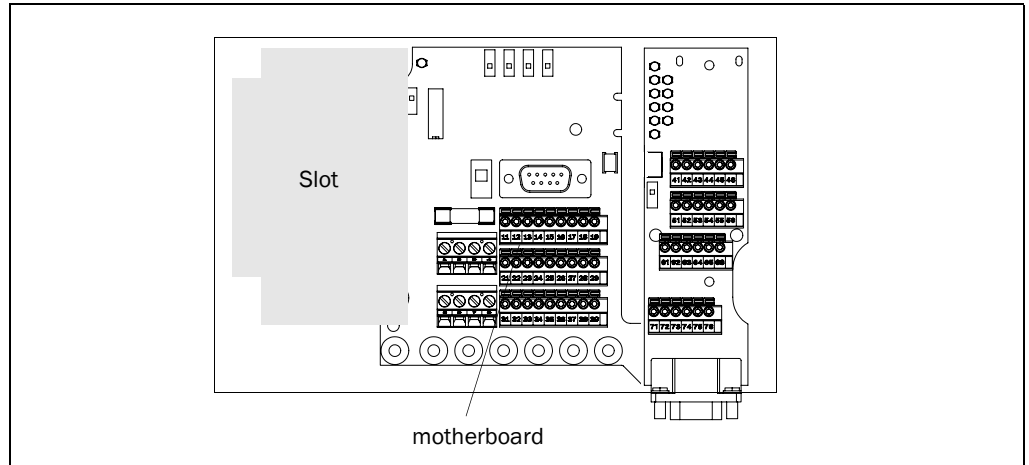

Fig. 2-1: Slot for the field bus gateway for Profibus DP in the connection module
3. Align the gateway in such a way that the red connector points towards the front of the connection module. Insert the module to the left of the motherboard (Fig. 2-1). The SMD connector must rest on the mating connector of the motherboard.